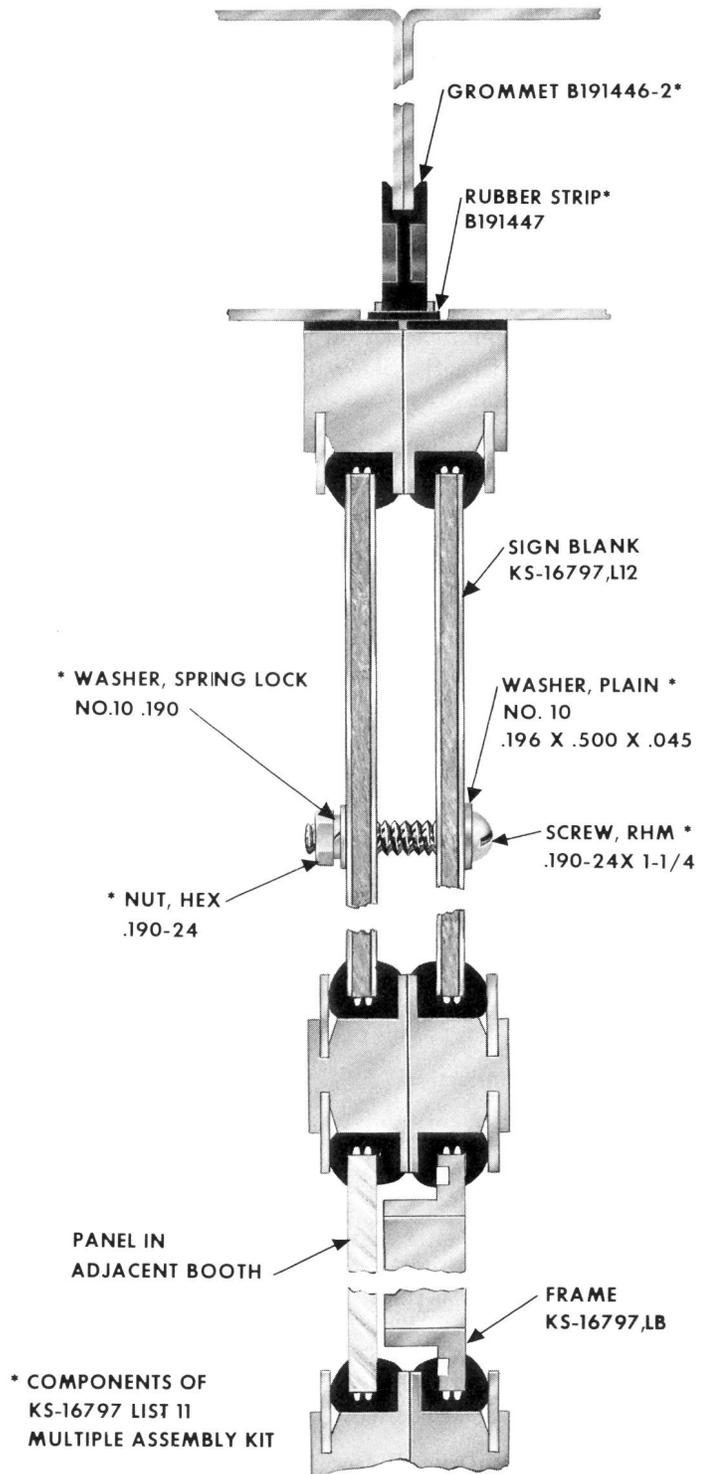

Fig. 3 — Connecting Booths
- (f) Add Fig. 3, 4, 5, 6, 7, 8, 9, and 10.
3. MULTIPLE BOOTH INSTALLATIONS (FIG. 3)
3.02 A KS-16797, List 11 multiple assembly kit (Fig. 3) for joining booths together is available. This assembly kit consists of: